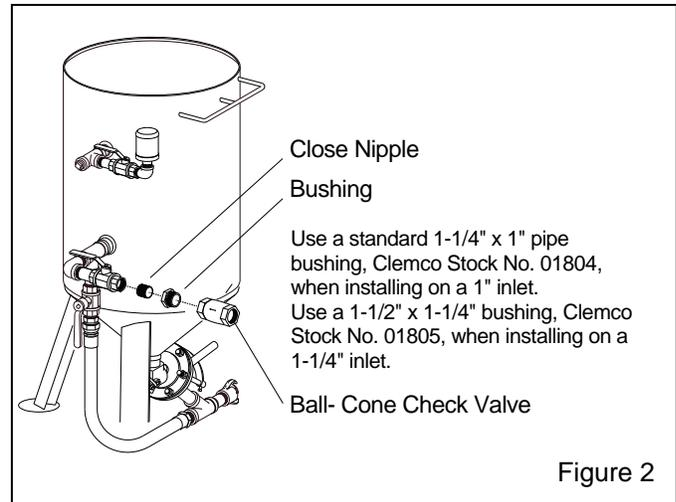

Figure 2
2.2.1 Where multiple blast machines are operating from a single air source, install a ball-cone check valve at the air supply on each machine. Refer to the illustration in Figure 2 to install the check valve.